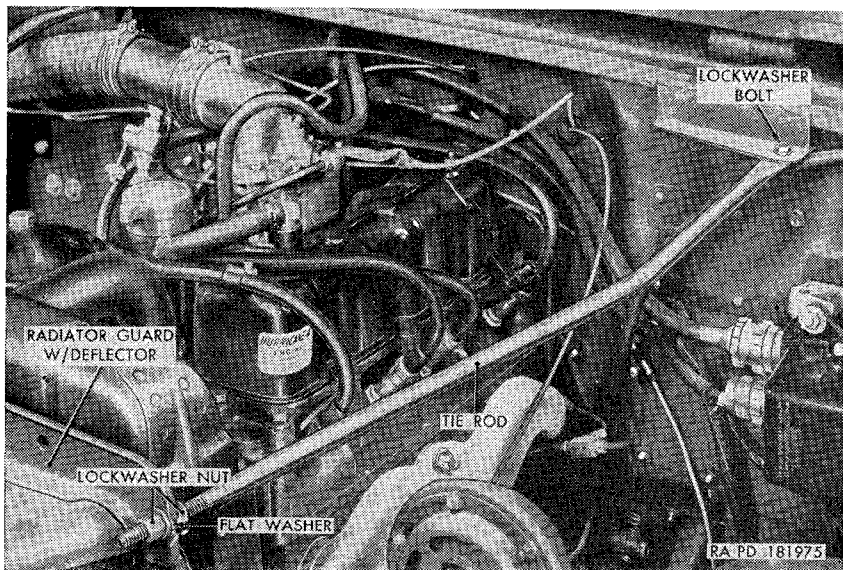
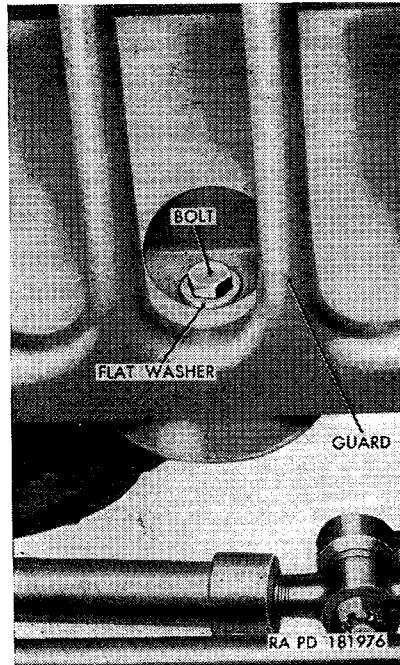

Figure 194. Dash-to-air deflector tie rod—installed on left side of radiator guard.
Figure 195. Radiator guard with deflector—bottom connection.
(1) Proceed as directed in paragraph 257a(1) through (4).
(2) Loosen the outer lockwasher nut (fig. 194) on each of the two dash-to-air deflector tie rods sufficiently so that flat washers on the rod will clear the projections on the air deflector of the radiator guard with deflector. Pull the rods outward until they are clear of the deflector.
(3) Remove the locknut and flat washer from the bolt (fig. 195) securing the bottom of the radiator guard with deflector to the bracket on the frame front cross member. Remove the bolt and flat washer from the guard and bracket. Pull the radiator guard forward until the guard slots are clear of the fender screws. Remove the guard from the vehicle.
- (4) Pull the rubber washer from the bottom of the spacer installed in the bracket on the frame front cross member. Lift the other rubber washer with the spacer from the top of the bracket.
- (5) Remove the nut and lockwasher bolt (fig. 194) securing the rear of each tie rod to the bracket on the dash. Remove the two tie rods.
- (6) Proceed as directed in paragraph 257a(6) and (7).
- (2) Install the spacer in the opening provided in the bracket on the frame front cross member. Install one rubber washer on the top end of the spacer.
- (3) Place the radiator guard with deflector in position at the front of the vehicle. Aline the hole at the bottom of the guard with the spacer hole, install one $\frac{7}{16}$ -inch flat washer on the $\frac{7}{16} \times 2\frac{1}{4}$ bolt (fig. 195) and insert the bolt through the guard and spacer. Install one $\frac{7}{16}$ -inch ID, 2-inch OD flat washer, and $\frac{7}{16}$ -inch locknut on the bolt, but do not tighten nut at this time.
- (4) Enter the two lockwasher screws on the bottom of the guard into the mounting slots in the fenders. Enter the four lockwasher screws in the fenders into the mounting slots of the guard. Tighten all six screws.
- (5) Tighten the $\frac{7}{16}$ -inch locknut installed on the bolt at the bottom of the guard.
- (6) Secure guard to radiator by screwing two $\frac{5}{16} \times \frac{5}{8}$ bolts into the radiator-to-guard panel clips on each side of guard.
- (7) Position the flat end of each dash-to-air deflector tie rod on the bottom of the bracket on the dash. Secure each rod to bracket with one $\frac{5}{16} \times \frac{7}{8}$ lockwasher bolt (fig. 194) and $\frac{5}{16}$ -inch nut.
- (8) Insert the front end of each rod between the projections on the deflector of the guard, making sure a flat washer is on each side of the projection. Tighten the outer $\frac{3}{8}$ -inch lockwasher nut (fig. 194) on each rod to brace the guard.
- (9) Proceed as directed in paragraph 257b (5) and (6).